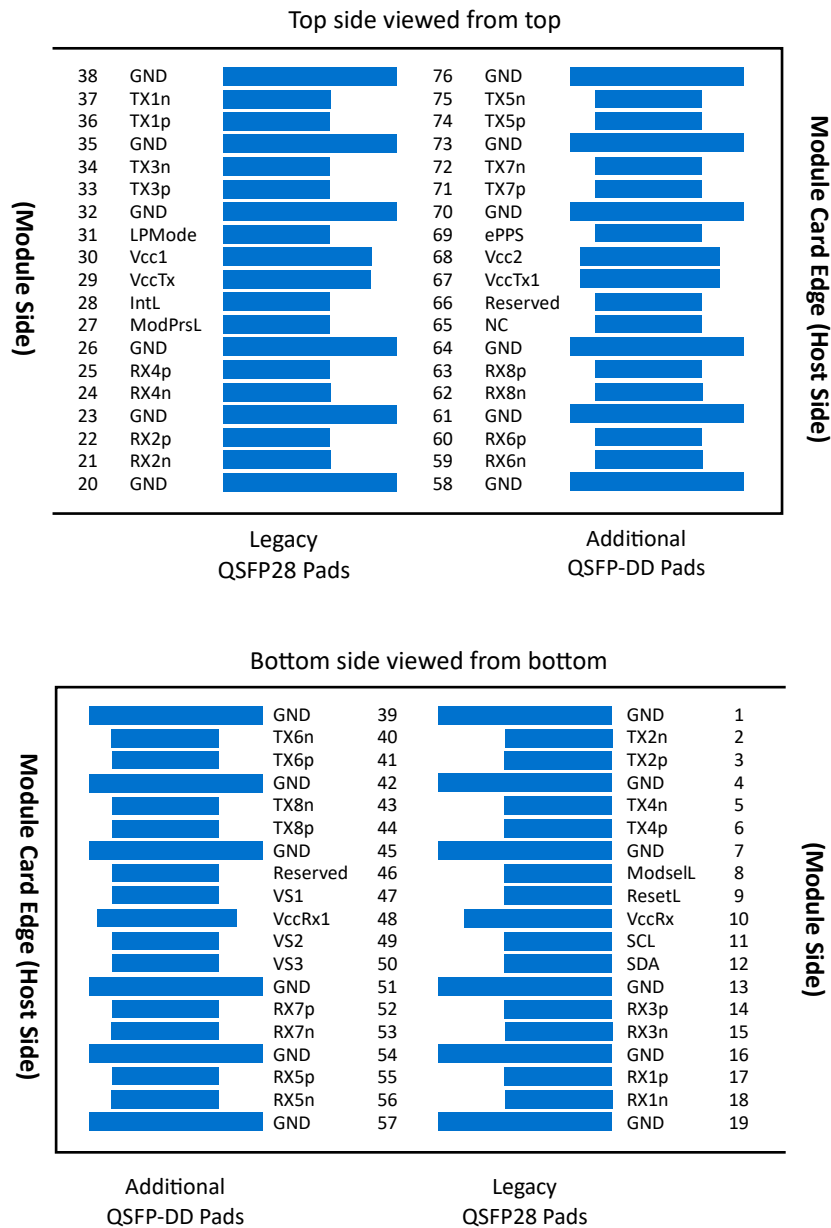

Figure 2. QSFP-DD pad assignment top view
4. Plug Sequence specifies the mating sequence of the host connector and module. The sequence is 1A, 2A, 3A, 1B, 2B, 3B. (see Figure 2 for pad locations) Contact sequence A will make, then break contact with additional QSFP-DD pads. Sequence 1A and 1B will then occur simultaneously, followed by 2A and 2B, followed by 3A and 3B